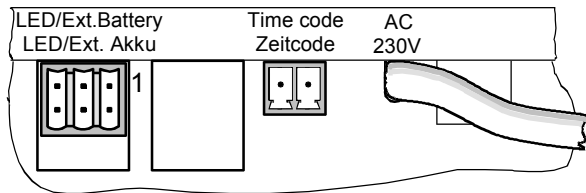

Fig. 6
- Wire line signal (IRIG-B, AFNOR or DCF-FSK) to plug "Time code" (see Fig. 6 and 8).